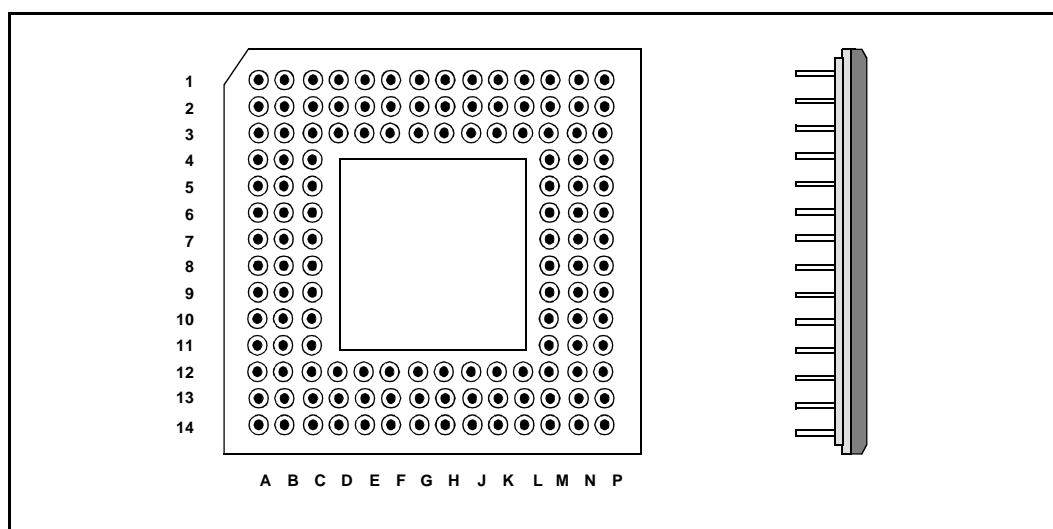

Figure 17. 132-Lead Pin-Grid Array (PGA) Package
- 132-lead ceramic pin-grid array (PGA). Pins are arranged 0.100 inch (2.54 mm) center-to-center, in a 14 by 14 matrix, three rows around (see Figure 17).